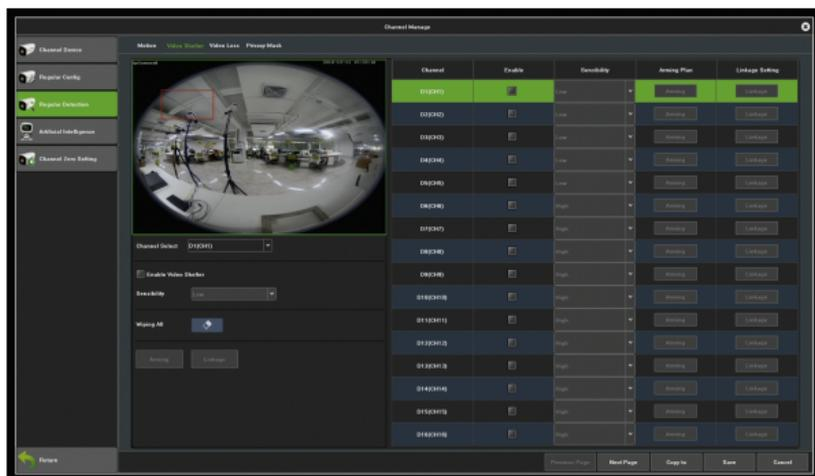

Figure 7.18 Video Tampering
- 1) Enter the interface of video mask alarm of channel parameter and choose a channel which you want to set up a video mask alarm, as shown in Figure 7.18.